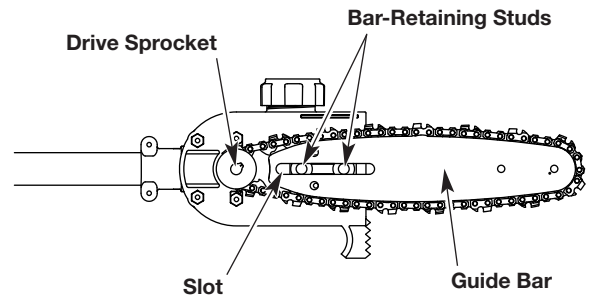

Fig. 12
5. Loop the saw chain over the drive sprocket (Fig. 12).
6. Adjust the chain-tensioning screw to allow the insertion of the guide bar. Install the guide bar. The two bar-retaining studs should protrude through the slot in the guide bar (Fig. 12).
8. Install the bar cover. Tighten the screw and two (2) bar-retaining nuts.